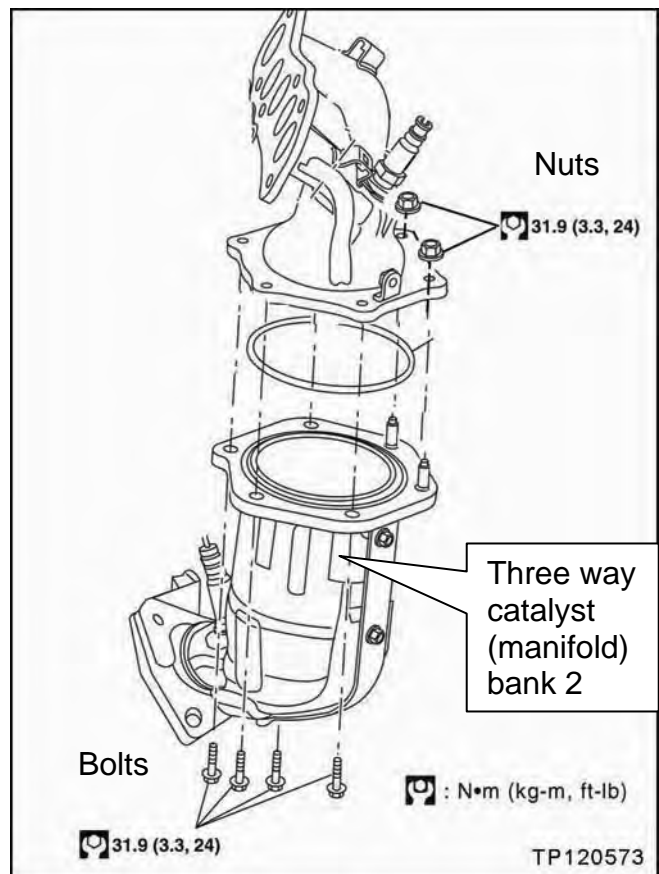

Figure 34
- The three way catalyst is held on with 4 bolts and 2 nuts shown in Figure 34.